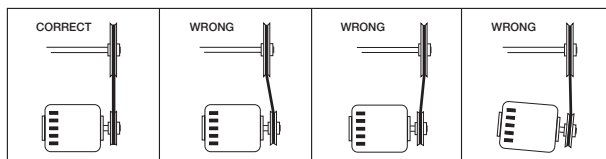

Figure 10
- If adjustments are made, it is very important to check the pulleys for proper alignment. Misaligned pulleys lead to excessive belt wear vibration, noise and power loss, see Figure 10.